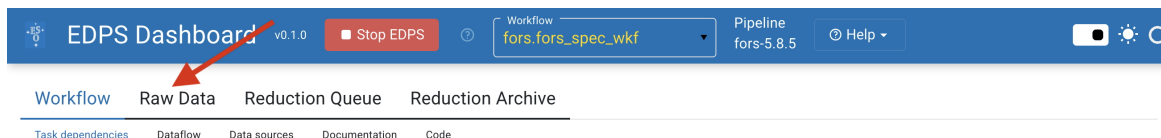

Figure 5: How to select RAW data Tab.
1. Press 'Raw Data' to enter the corresponding tab, as in Figure 5.